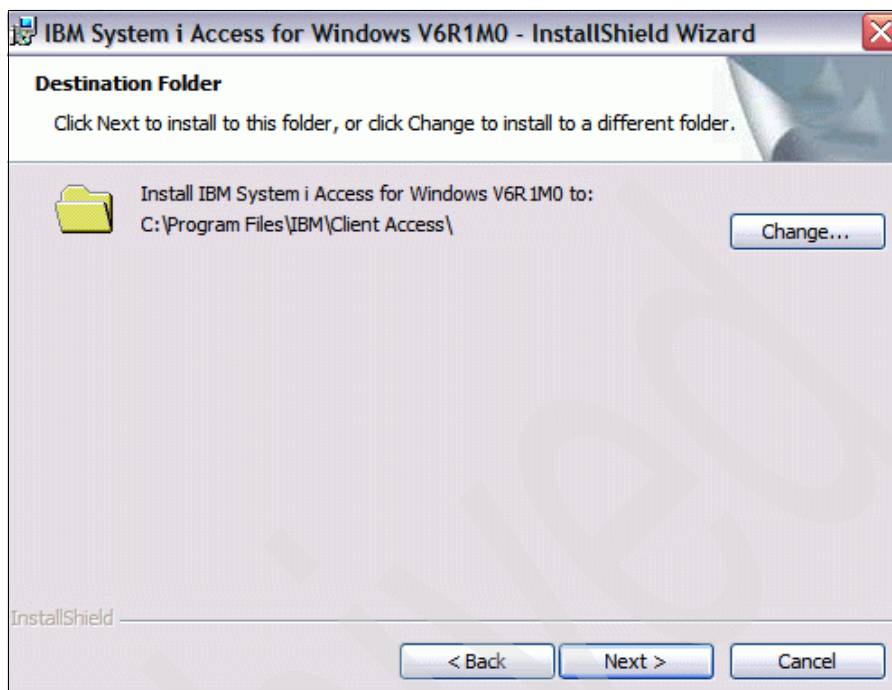

Figure 7-13 IBM System i Access for Windows install location
4. IBM System i Access for Windows can be installed at a different location, as shown in Figure 7-13 on page 257. Do one of the following steps: